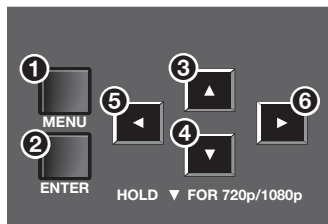

Figure 15. Menu Selection Buttons
- **Menu button** — Press the **Menu** button (see figure 15, ①) to activate or exit the on-screen menu, deselect a submenu, or cancel a pending change.
- **Enter button** — Press the **Enter** button (②) to access the on-screen menu, select submenus, or submenu items, or to accept pending changes.
- Press the ▲ (**Up**) (③) or the ▼ (**Down**) (④) arrow button to navigate submenus or submenu items.
- Press the ► (**Right**) arrow button (⑤) to access currently selected submenus or submenu items.
- Press the ◀ (**Left**) (⑥) arrow button to exit currently selected submenus or submenu items. You can also use the navigation buttons to adjust settings according to specific setting directions.